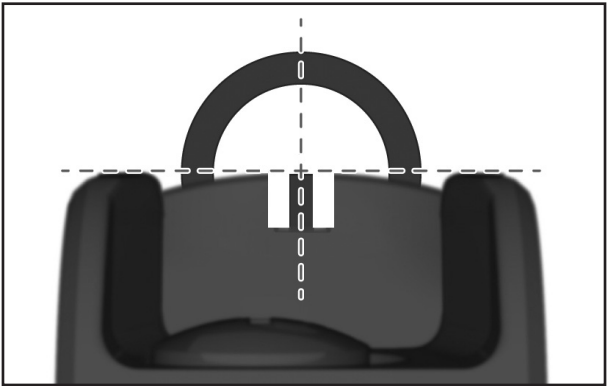
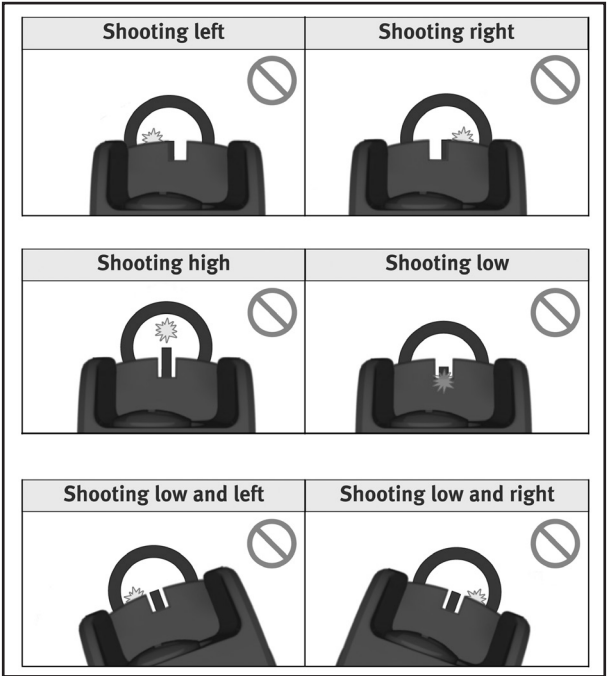
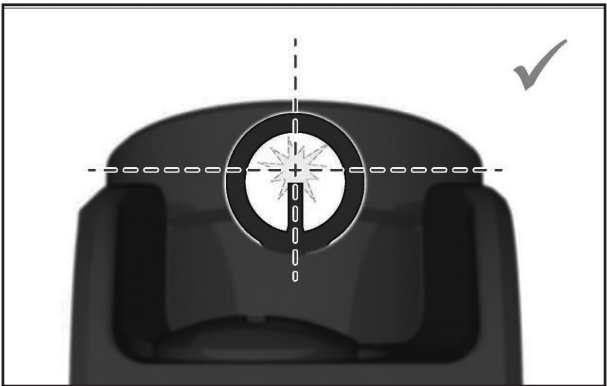

Fig. 12 – Correct sight alignment for SP5K-PDW
Fig. 13 – Common sight alignment errors for SP5K-PDW
Fig. 14 – Correct sight alignment for SP5
The SP5K-PDW correct sight alignment and “sight picture” is depicted in Fig. 12 below. Common sight alignment errors are shown in Fig. 13.
The SP5 correct sight alignment and “sight picture” is depicted in Fig. 14 below. Common sight alignment errors are shown in Fig. 15.
1. Acquire the proper sight alignment and sight picture (see Fig. 12 for SP5K-PDW and see Fig. 14 for SP5).